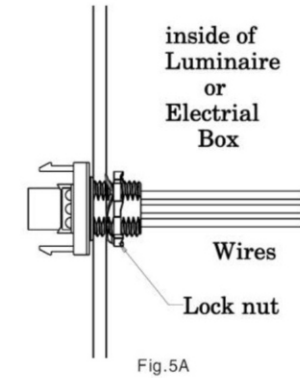

Fig.5A
- 1.Put the threaded nipple of the sensor part A(with wires)into a half inch hole of the luminaries' body or the electrical box and clockwise the lock-nut onto the threaded nipple. This whole installation process will be done by factory, if you purchase the fixture with sensor part A or the electrical box with sensor part A.(Fig.5A)